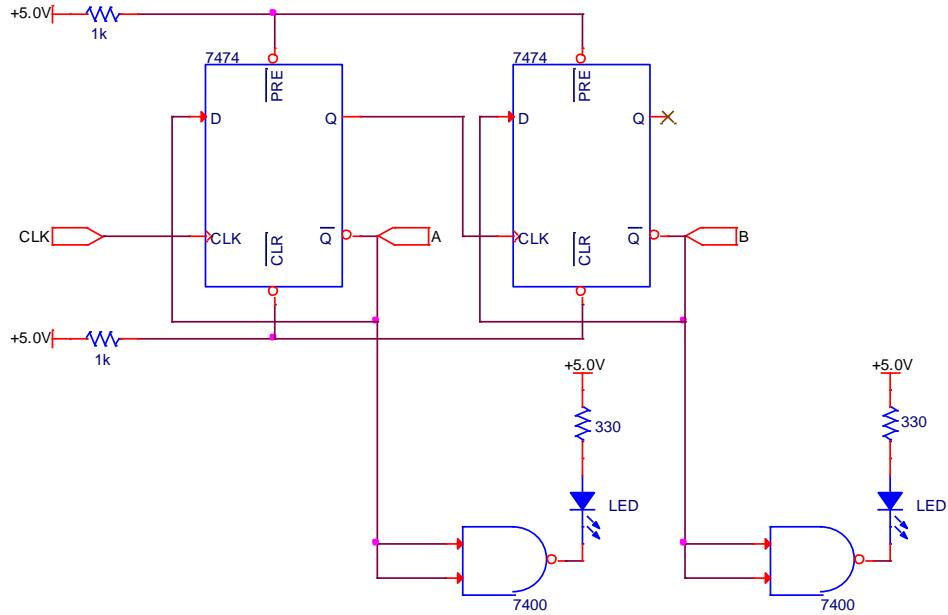

Figure 12.4
4. Now we will change the way we take the “true” output from the counter and see what happens. If logic “truth” is taken from the other side of each flip-flop, then we have the circuit shown in Figure 12.4.
- Suppose that the counter in Figure 12.4 has both LEDs on all the time. The clock is checked and found to be